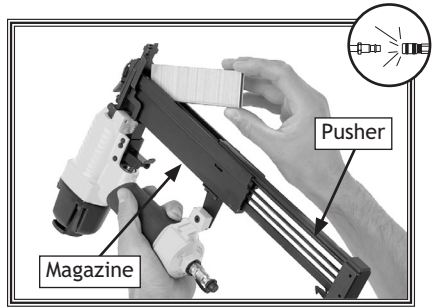

Figure 4. Loading staples into magazine.
3. Point the stapler up and insert a stick of staples, pointed-end up, into the bottom of the magazine, as shown in **Figure 4**. Make sure that the pointed ends of the staples point in the same direction as the stapler nose piece.